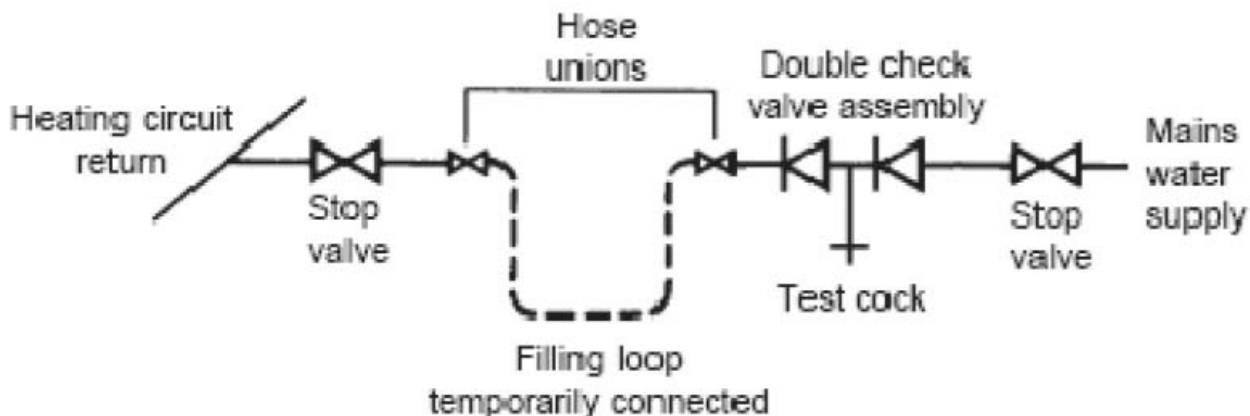

Fig. 5
2.3.3 Requirements for sealed water systems (fig. 5)
- d) A sealed system must only be filled by a competent person using a method similar to that shown in fig. 5. The system design should incorporate the connections appropriate to one of these methods.